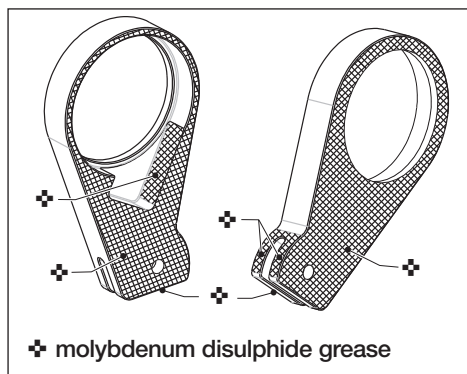

Fig. 18
5.4 Preventative Maintenance - Cassette (Fig. 18 and 20)